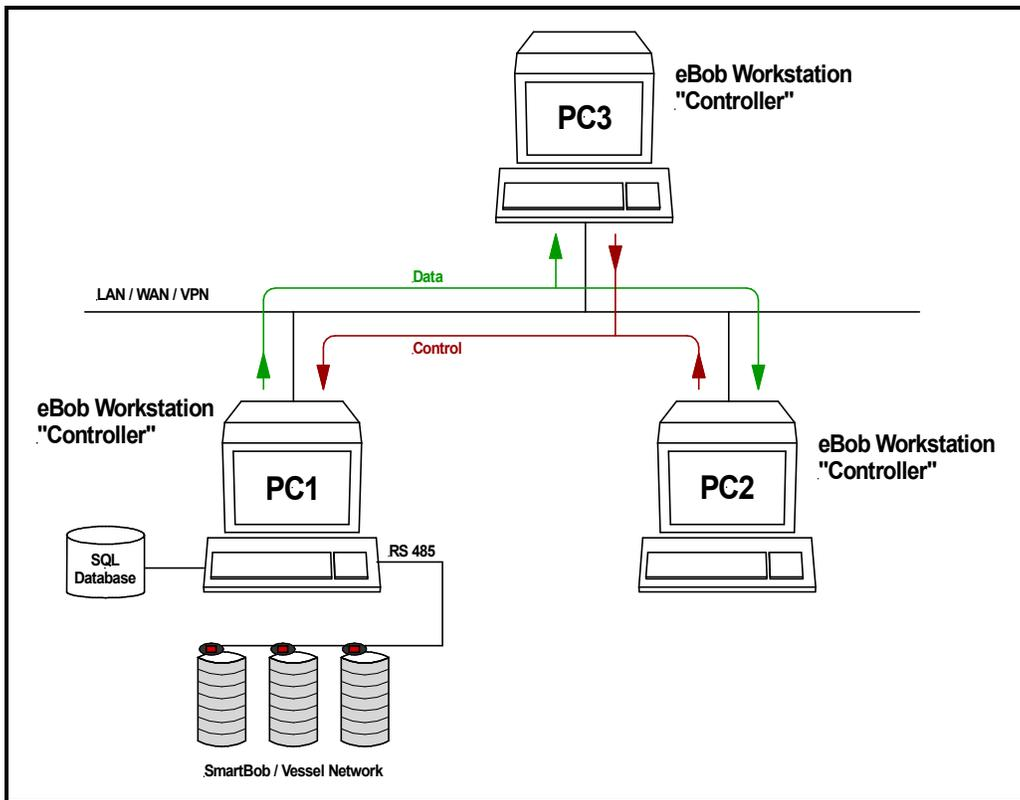

Figure 47
An additional option is to create multiple eBob Workstation “Controllers” that connect to a single PC running eBob Workstation. Reference Figure 47.
**Reference Figure 47.**